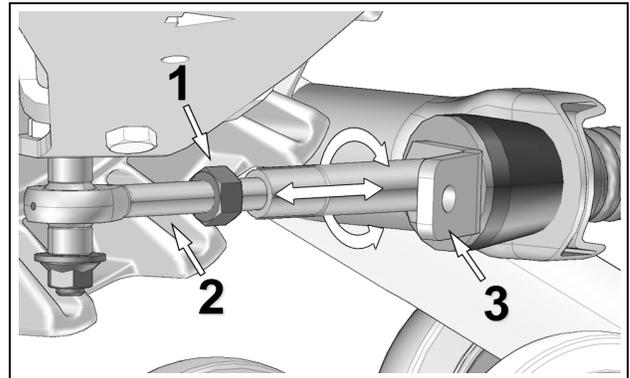

Figure 5
- Loosen jam nut (1). Adjust length of rod end (2) by rotating the steering limiter support plate on (3) the stabilizing arm. Use a 30 mm wrench to rotate support plate and obtain **254 mm** above the ground. Refer to Figure 5.
*NOTE:* The stabilizing arms on front Track Systems incorporate a steering limiter support plate (3) that is bent. This plate should be positioned inwards, towards the vehicle.